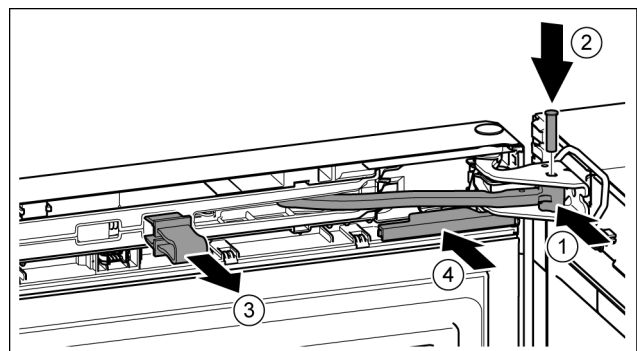

Fig. 20
- ▶ Turn the hinge in the bearing bracket. Fig. 20 (1)
- ▶ Insert the bolt in the bearing bracket and hinge. Make sure that the catch mechanism is sitting correctly in the groove. Fig. 20 (2)
- ▶ Remove the locking device. *Fig. 20 (3)*
- ▶ Slide on the cover. *Fig. 20 (4)*